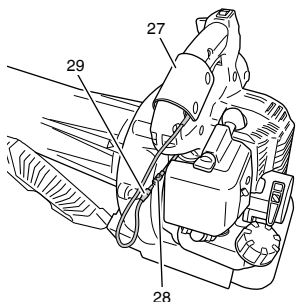

Fig. 12
- Connect the terminal extending from the engine (28) to the terminal of the anti-static-electricity pad (29). Next, attach the anti-static-electricity pad (27) to the handle as shown in the Fig. 12.